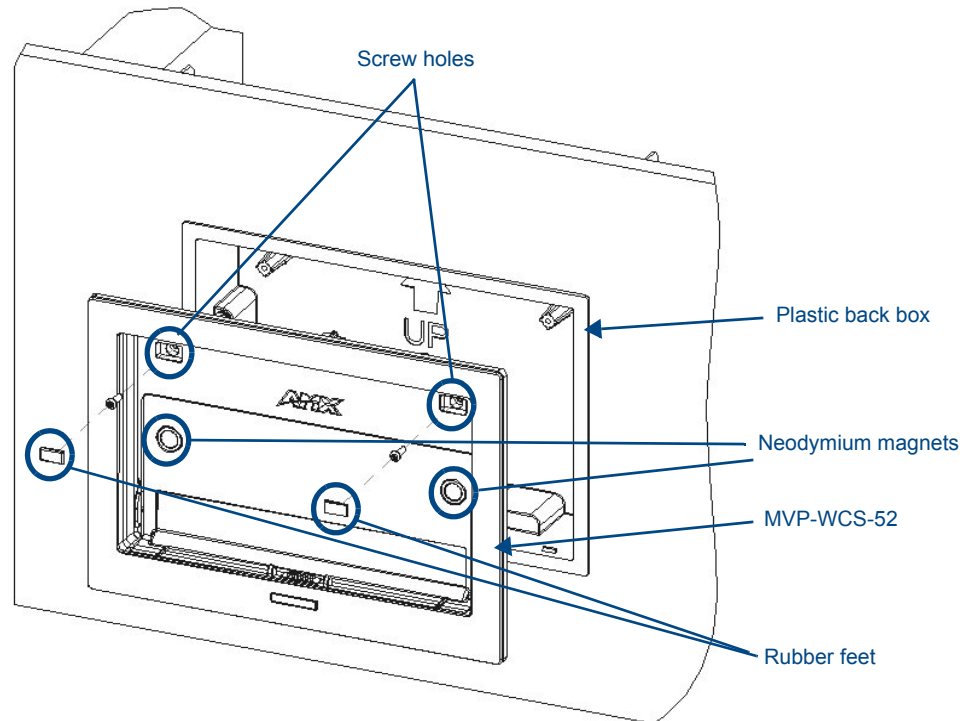

FIG. 10 Installation of MVP-WCS-52
10. Insert the two installation screws from the MVP-WCS-52 Installation Kit into the screw holes in the interior compartment of the device and tighten them to anchor the device to the box (FIG. 10).